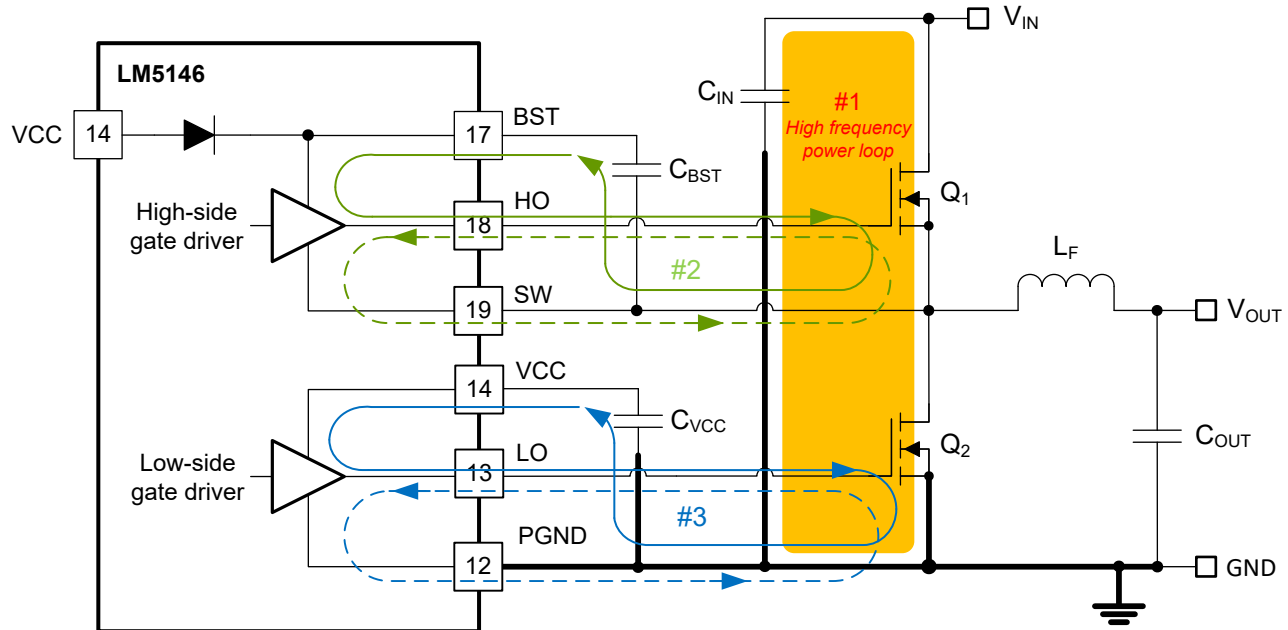

图 11-1. DC/DC Regulator Ground System With Power Stage and Gate Drive Circuit Switching Loops
Proper PCB design and layout is important in a high-current, fast-switching circuits (with high current and voltage slew rates) to assure appropriate device operation and design robustness. As expected, certain issues must be considered before designing a PCB layout using the LM5146. The high-frequency power loop of the buck converter power stage is denoted by #1 in the shaded area of 图 11-1. The topological architecture of a buck converter means that particularly high di/dt current flows in the components of loop 1, and it becomes mandatory to reduce the parasitic inductance of this loop by minimizing its effective loop area. Also important is the gate drive loops of the low-side and high-side MOSFETs, denoted by 2 and 3, respectively, in 图 11-1.
- Loop #1: The most important loop to minimize the area of is the path from the input capacitor or capacitors through the high- and low-side MOSFETs, and back to the capacitor or capacitors through the ground connection. Connect the input capacitor or capacitors negative terminal close to the source of the low-side MOSFET (at ground). Similarly, connect the input capacitor or capacitors positive terminal close to the drain of the high-side MOSFET (at V_{IN}). Refer to loop #1 of 图 11-1.
5. The SW pin connects to the switch node of the power conversion stage and acts as the return path for the high-side gate driver. The parasitic inductance inherent to loop #1 in Figure 11-1 and the output capacitance (C_{OSS}) of both power MOSFETs form a resonant circuit that induces high frequency (> 100 MHz) ringing on the SW node. The voltage peak of this ringing, if not controlled, can be significantly higher than the input voltage. Ensure that the peak ringing amplitude does not exceed the absolute maximum rating limit for the SW pin. In many cases, a series resistor and capacitor snubber network connected from the SW node to GND damps the ringing and decreases the peak amplitude. Provide provisions for snubber network components in the PCB layout. If testing reveals that the ringing amplitude at the SW pin is excessive, then include snubber components as needed.
- Loop 2: high-side MOSFET, Q_1 . During the high-side MOSFET turnon, high current flows from the bootstrap (boot) capacitor through the gate driver and high-side MOSFET, and back to the negative terminal of the boot capacitor through the SW connection. Conversely, to turn off the high-side MOSFET, high current flows from the gate of the high-side MOSFET through the gate driver and SW, and back to the source of the high-side MOSFET through the SW trace. Refer to loop #2 of Figure 11-1.
- Loop 3: low-side MOSFET, Q_2 . During the low-side MOSFET turn-on, high current flows from the VCC decoupling capacitor through the gate driver and low-side MOSFET, and back to the negative terminal of the capacitor through ground. Conversely, to turn off the low-side MOSFET, high current flows from the gate of the low-side MOSFET through the gate driver and GND, and back to the source of the low-side MOSFET through ground. Refer to loop #3 of Figure 11-1.